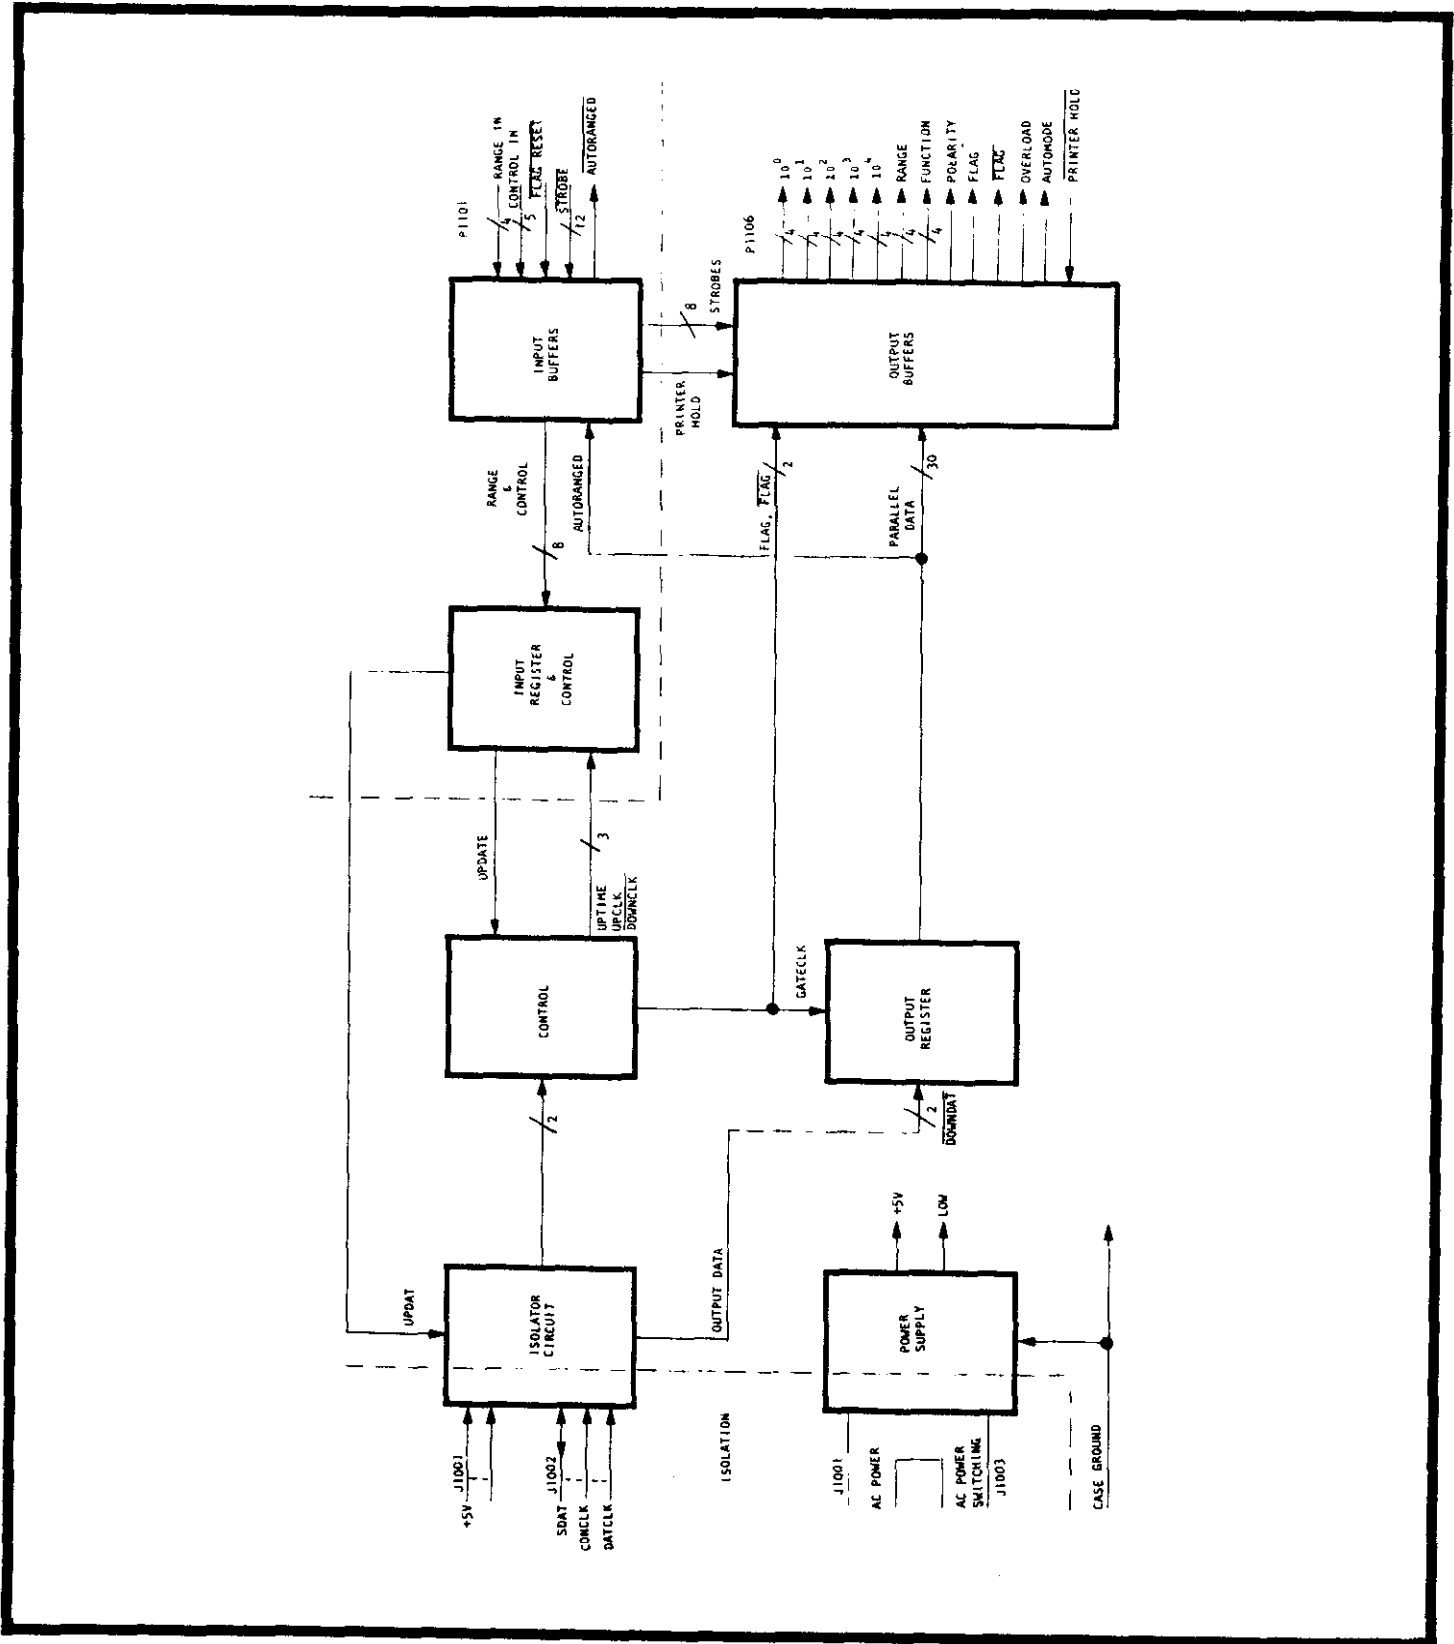

FIGURE 14. Model 1722 Block Diagram
1. Overall Block Diagram. As shown in Figure 14 Serial data from the DMM and its associated clock lines are first isolated. Bidirectional data line SERDAT is then split. Output data DOWNDAT goes to the output register block where it is converted to parallel form and then to the output buffers. The clock lines go to the control block which decides where the data is going, out or in, and also generates the flag. Control input data and strobes are first buffered by the input buffer block. The strobes go to the output buffer to gate the outputs. The control data inputs go to the input register and control block where they are converted from parallel to serial form and sent to the isolation block. The input register and control block also decides, based on control data input, whether there is to be an output update. Power isolation for the 1722 is provided by transformer T1001 which is powered by a secondary winding of the DMM power transformer.